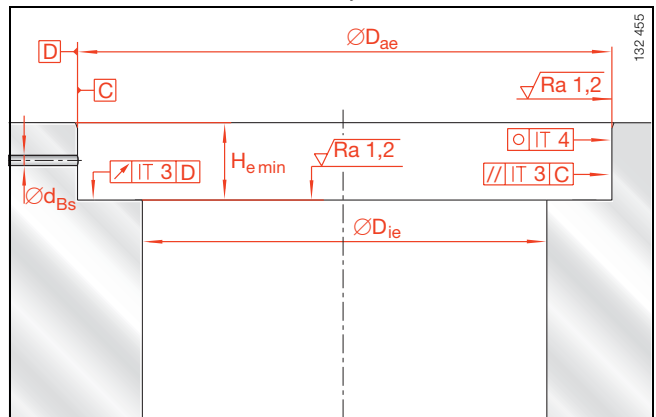

Figure 7 · Housing design
- for the seating and support surfaces in the housing, accuracy according to Figure 7 is required